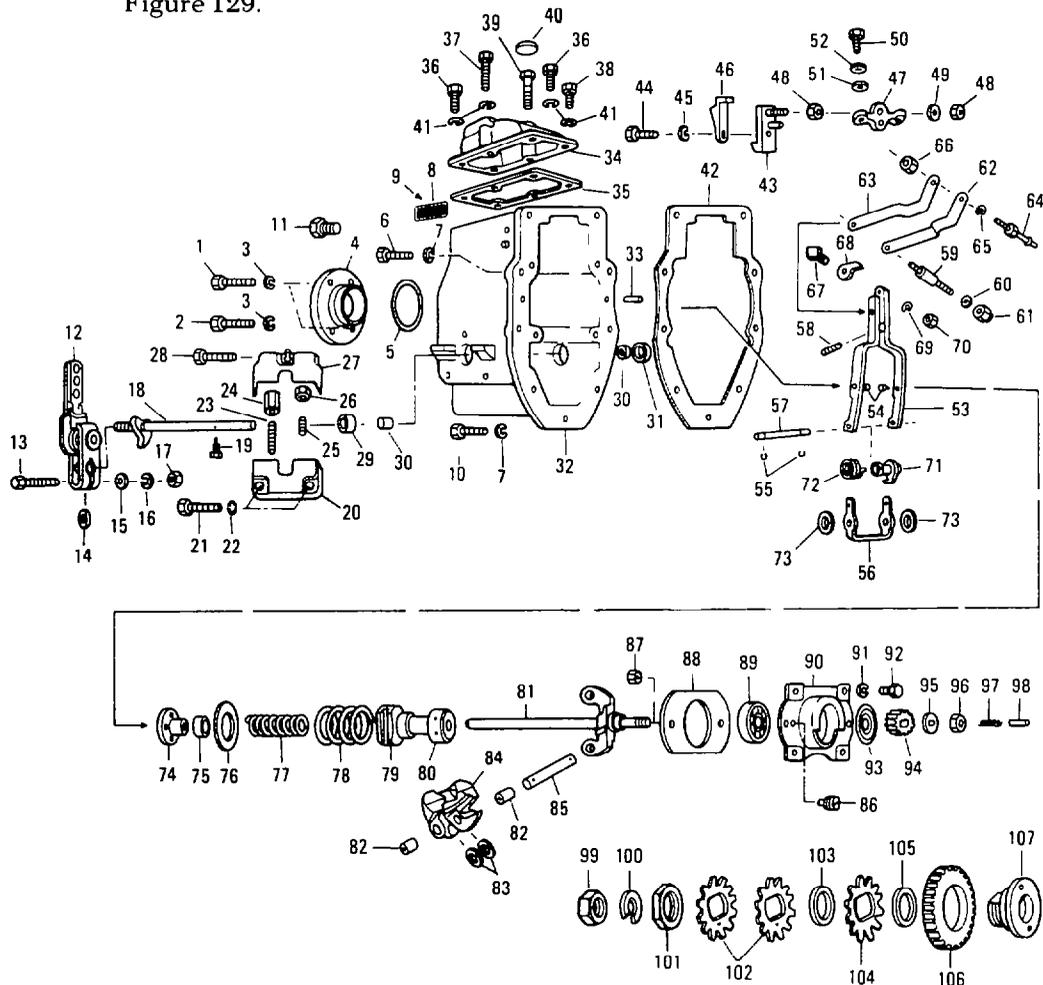

Fig. 129 — Exploded View of GVB/E 6881 Governor
NOTE: Unless otherwise stated, all numbers in parentheses () refer to illustration numbers in Figure 129.
- a. Remove the governor inspection cover (fig. 129, item 34), gasket (item 35) and screws (items 36 to 40).
- b. Remove two screws (item 50) and lockwashers (items 51 and 52) and remove the stop plate assembly (item 43 to 48) from the governor housing (item 32).
- c. Remove the operating lever covers (item 20 and 27).
- d. Remove the set screw (item 19) from the operating shaft spring hub (item 71).
- e. Withdraw the operating lever shaft (item 18) and remove the spring hub (item 71).
- f. Remove the end cap screws (items 1 and 2), the end cap (item 4), the rear spring seat (item 74), shims (items 75 and 76) and springs (items 77 and 78).
- g. Unscrew the four fastening screws from the front bearing bridge (item 90) and carefully slide the governor weight shaft assembly (items 81 to 85) from the governor housing (item 32).
- h. If the operating lever shaft bushes (item 30) and oil seal (item 29) need replacing remove with tool TSE 7936.
- i. Withdraw the fulcrum lever assembly (item 53 to 68) and sleeve (item 79) from the governor housing (item 32).
- j. Remove the weight lubricating plunger (item 98) and spring (item 97). Remove the nut (item 96), washer (item 95), slinger (item 93) and driven gear (item 94).
- k. Use an arbor press to remove the shaft (item 81) from the ball bearing (item 89) and bridge (item 90).